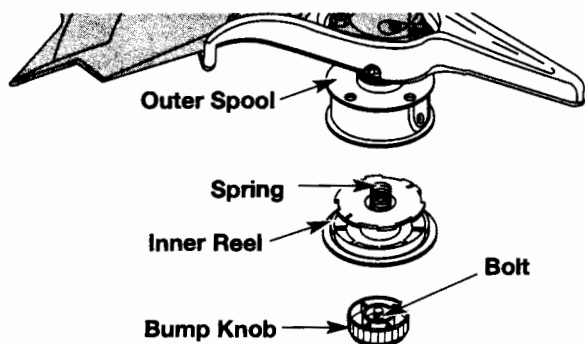

Fig. 27
1. Hold the outer spool with one hand and unscrew the Bump Knob clockwise (Fig. 27). Inspect the bolt inside the bump knob to make sure it moves freely. Replace the bump knob if damaged.
2. Remove the inner reel from the outer spool (Fig. 27).
3. Remove spring from the inner reel (Fig. 27).
1. Hold the outer spool with one hand and unscrew the bump knob clockwise (Fig. 27). Inspect the bolt inside the bump knob to make sure it moves freely. Replace the bump knob if damaged.
2. Remove the old inner reel from the outer spool (Fig. 27).
3. Remove the spring from the old inner reel (Fig. 27).